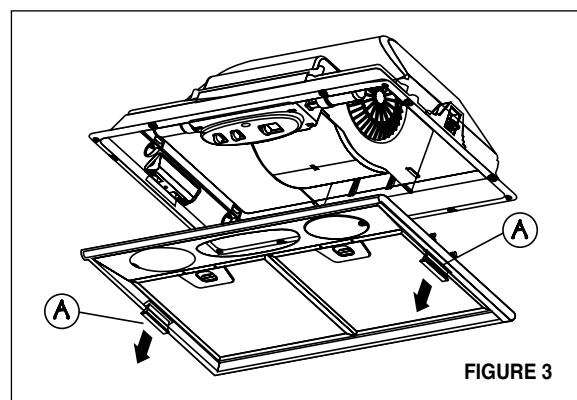

FIGURE 3
3. Remove the bottom of the rangehood by pulling on the grey tabs (**A in FIGURE 3**) located on either side.
6. Replace the bottom of the rangehood and secure by pushing in the grey tabs (**A in FIGURE 3**).